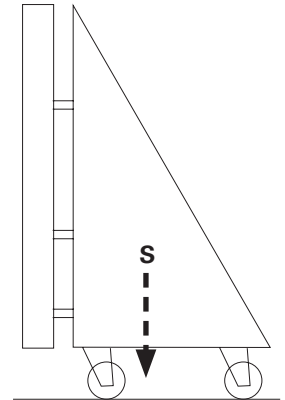

Fig. B4.04
- Include Guide Rollers in the planning so that the overall centre of gravity lies between the rollers. (Fig. B4.04)